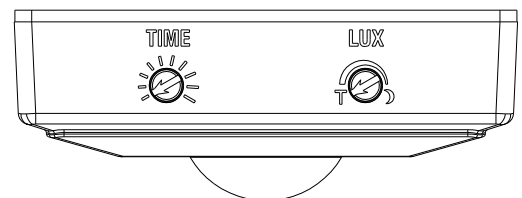

FIGURE 6
- Turn the Lux control and the Time control counter-clockwise to the edge-the TEST position (FIGURE 6)